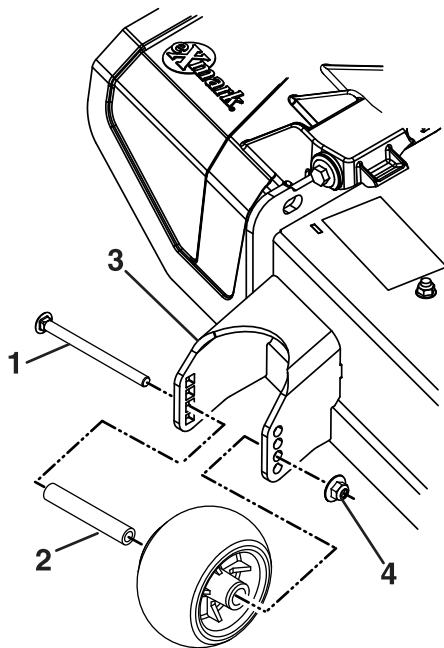

Figure 19
7. Reinstall the mounting hardware as shown in Figure 19.